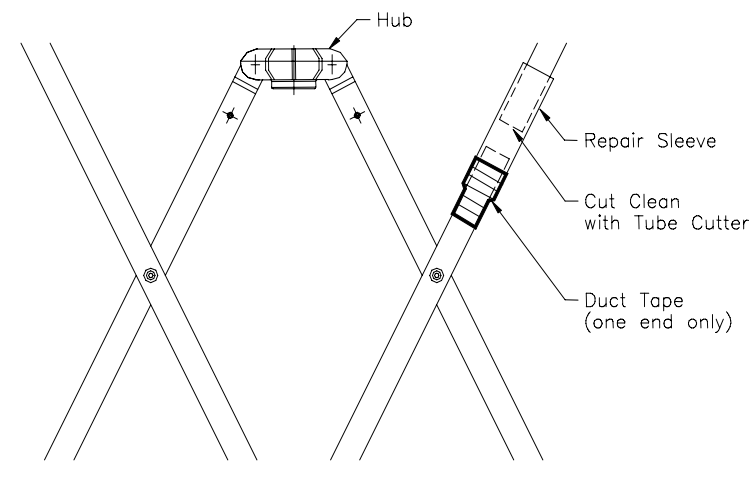

Figure 4-1. Repairing Shelter Struts
6. Tape **ONLY** one end of the repair sleeve with the duct tape. This will allow the other broken end to telescope within the sleeve and maintain its critical length see Figure 4-1.